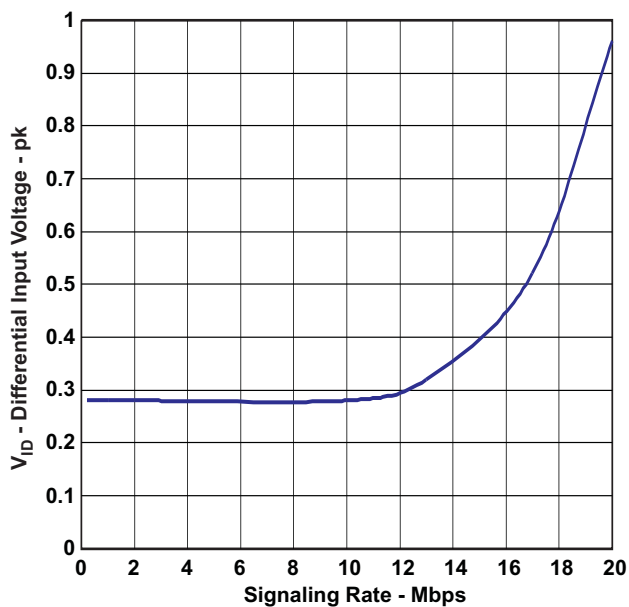

Figure 14. ISO3086 Recommended Minimum Differential Input Voltage vs Signaling Rate
- Added "Dynamic" conditions to Recommended Operating Conditions V_{ID} spec with reference to Figure 14 2
- Added Figure 14 8